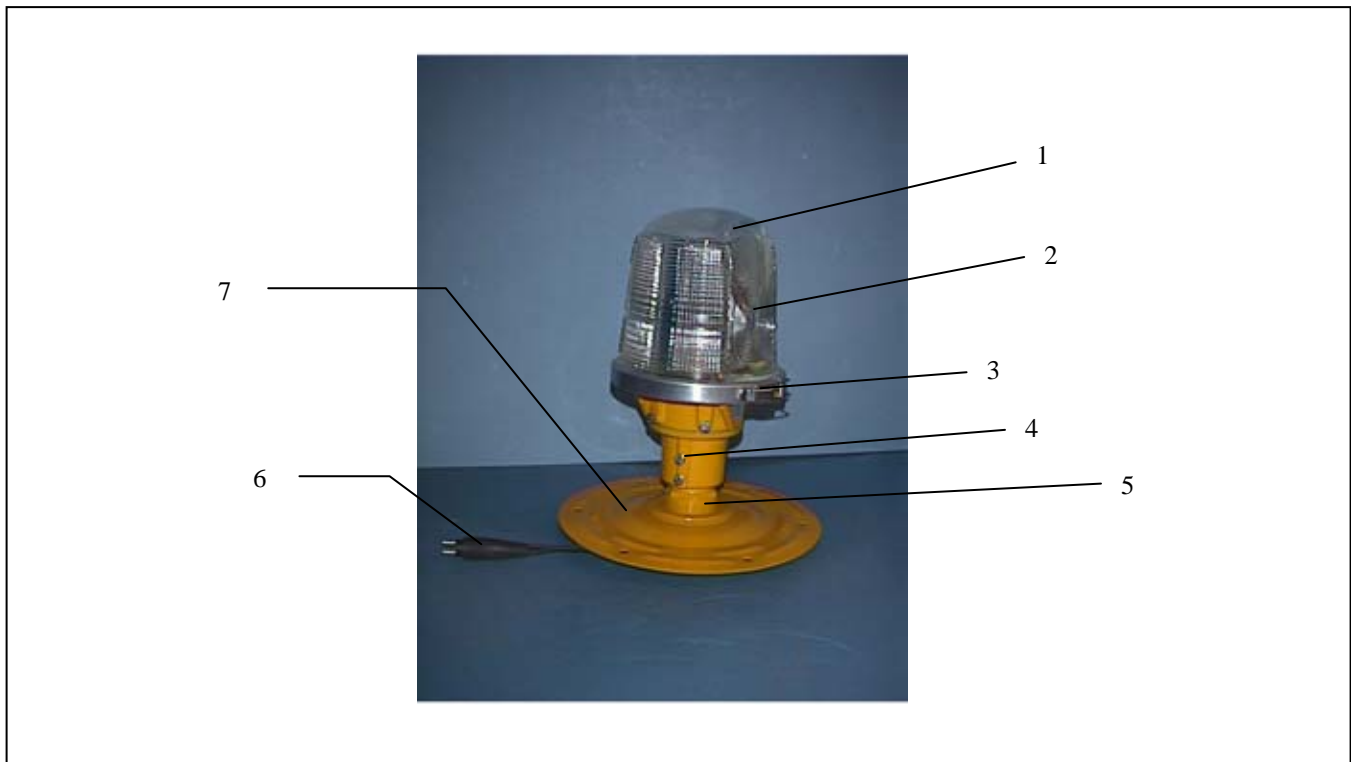
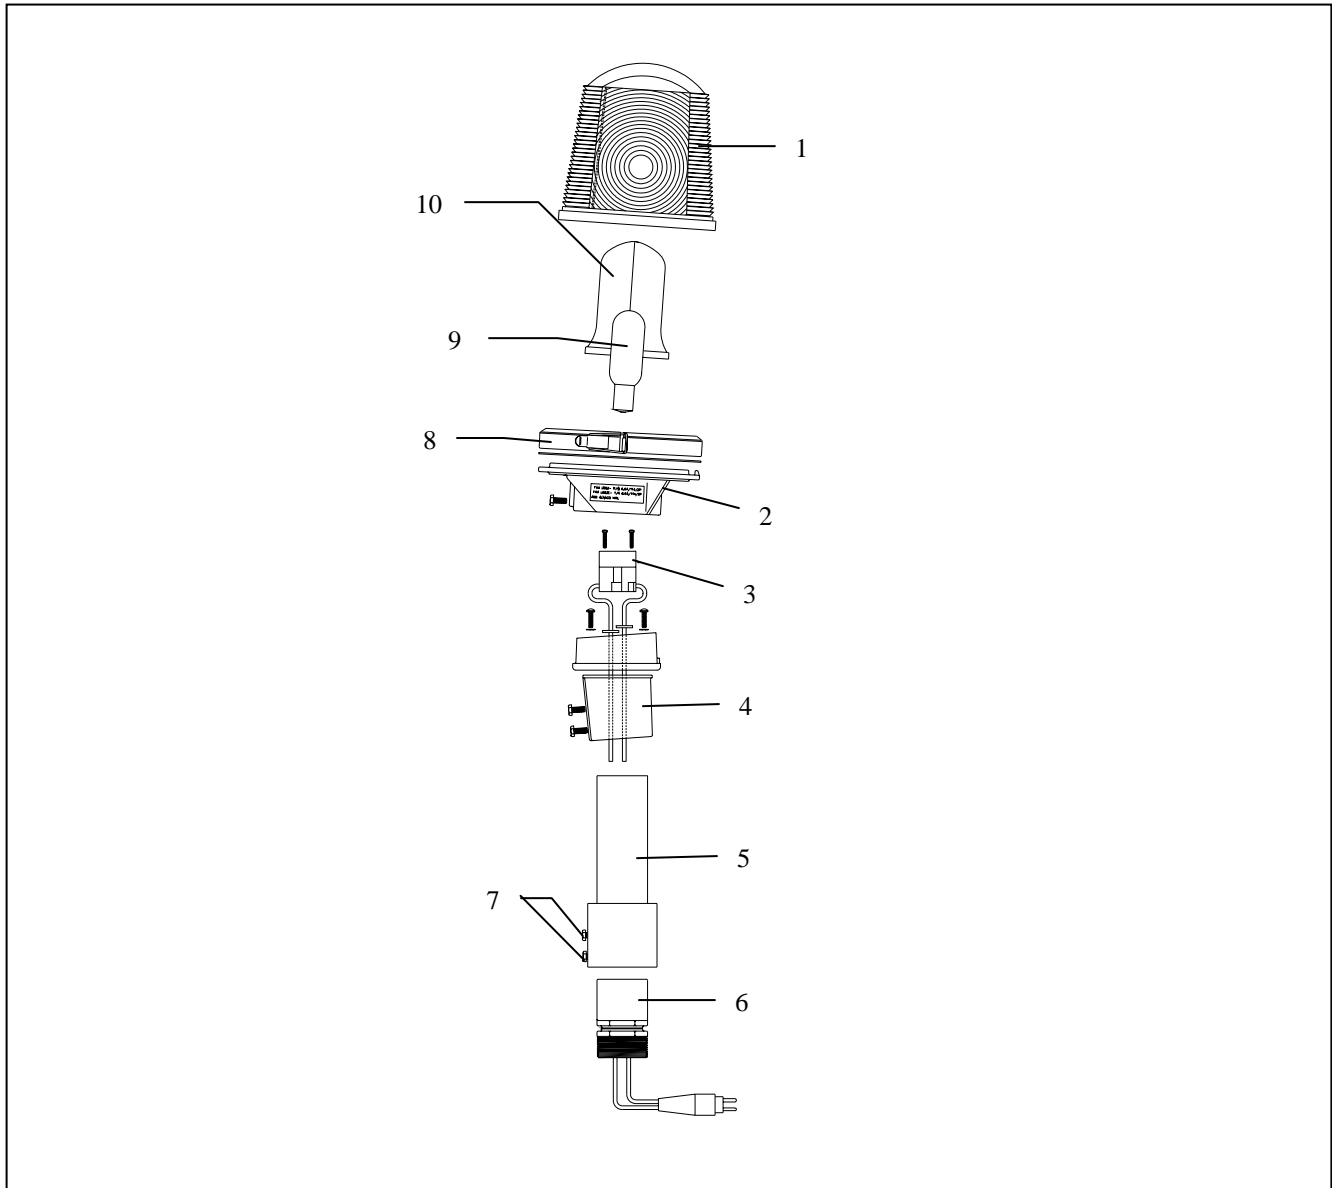

Figure 3. L-862/L-862E Light Fixture for Base Plate Mounting without Extension
Figure 4. L-862 Elevated Runway Edge Light Assembly with Extension
7. After the base plate has been bolted to the light base, assemble the light assembly with the extension column, if required, and the frangible coupling. For light fixture with extension, mount hex screws as shown in Figure 4, Item 7. For light fixture without extension, these hex screws (see Figure 3, Item 4) should only be hand tightened.
- c. Install the two filter segments (if used) on the lens base and secure to the base by attaching four plastic clips. Then install the lens on the base and secure by snapping shut the clamp band (see Figure 3, Item 3 and Figure 4, Item 8).